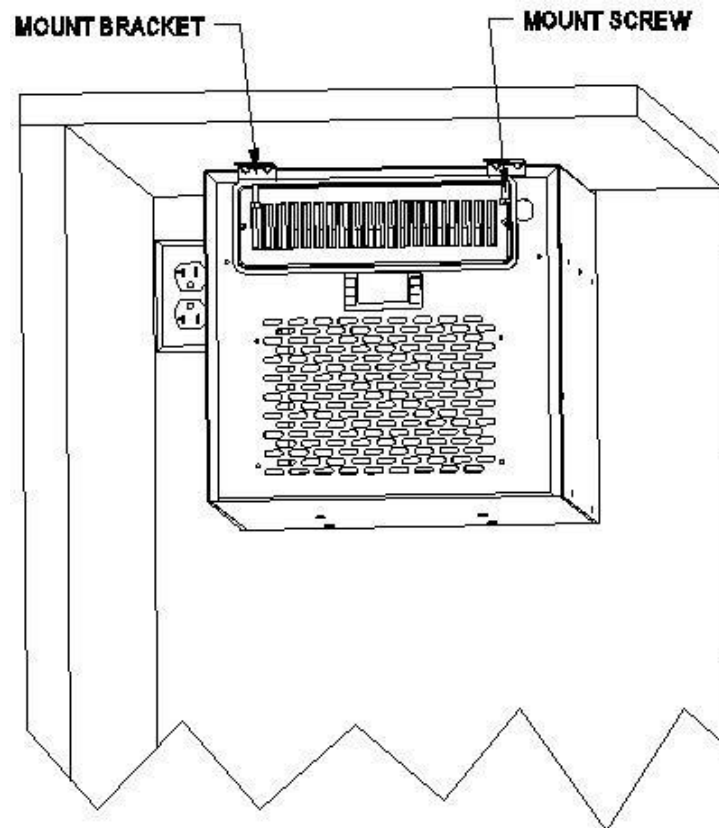

Fig. 2.6 SECURING BRACKET & SCREW
- Use 2 brackets and 1/4" screws with 7/16" wrench to secure the cooling unit (see Fig 2.6).